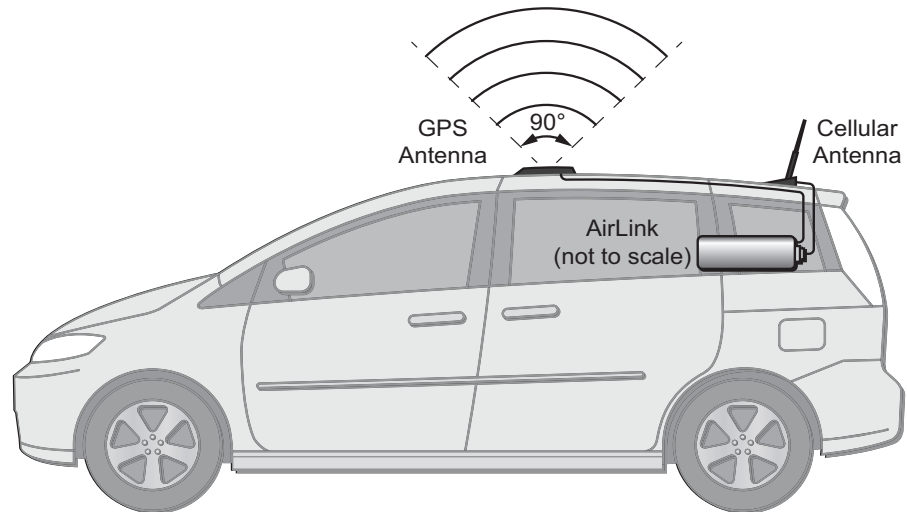

Figure 2-8: Mounting the antennas in a car or truck
1. Mount the antenna where it has a good view of the sky. It should see at least 90° of the sky. For example, if you mounted the AirLink device in a vehicle, you could mount the GPS antenna on the roof, the dashboard, or the rear panel, as shown in Figure 2-8 on page 23.